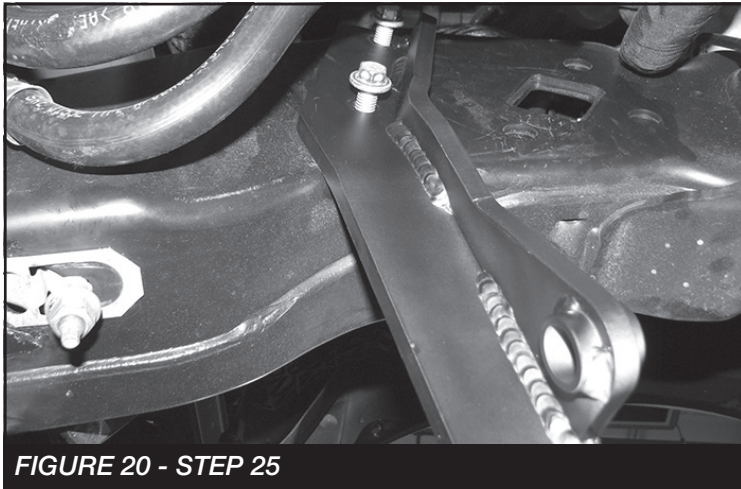

FIGURE 20 - STEP 25
25. Install FT30672 (steering stabilizer drop bracket) in the factory location using the factory hardware. Torque to 52 ft-lbs. **SEE FIGURE 20**